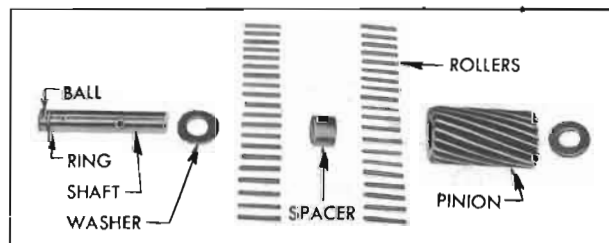

Figure 5-92—Low Planet Pinion, Disassembled
Note that the reverse planet pinions have a single set of rollers and the low planet pinions have two sets of rollers separated by a spacer. See Figure 5-92.
1. Re-assemble planet pinions and shafts with bearing rollers and thrust washers. The bottom thrust washer goes between retaining ring on shaft and the end of pinion. Each reverse planet pinion contains 24 rollers. Each low planet pinion contains 20 rollers at each end separated by a spacer. See Figure 5-92. Place a thrust washer on upper end of each assembly to hold rollers in place.